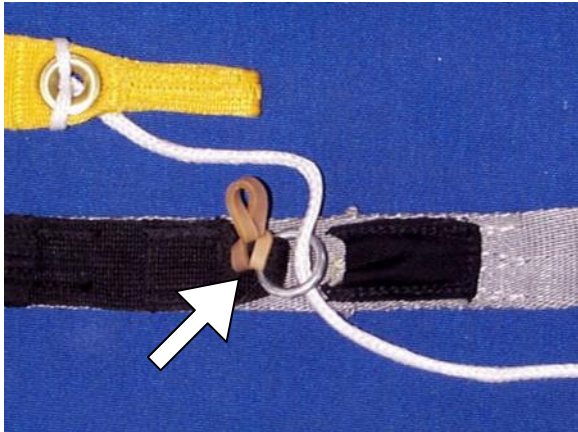

Figure 4. – Attaching the half rubber band.
1. Cut a large or small rubber line stow band in half lengthwise. Thread the half rubber band through the fabric loop that connects the metal guide ring to the riser and secure it with a larks-head knot as shown in *Figure 4*.